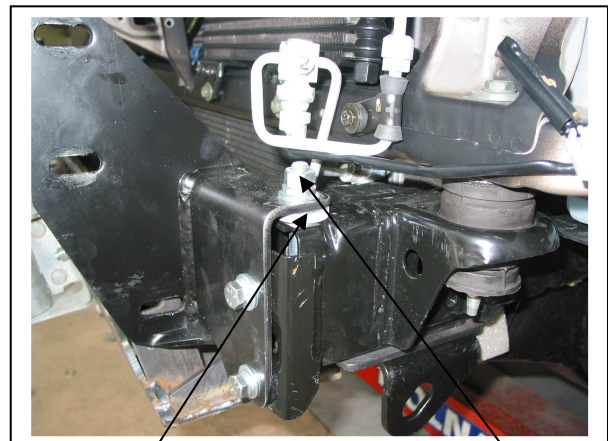

Figure 8
13. Insert ½ x 6 bolts (supplied) vertically through mount hole at front of chassis. Place 40mm round spacer (supplied) between mount and top of chassis. Use nuts/washers (supplied). **DO NOT TIGHTEN. See figure 8.**